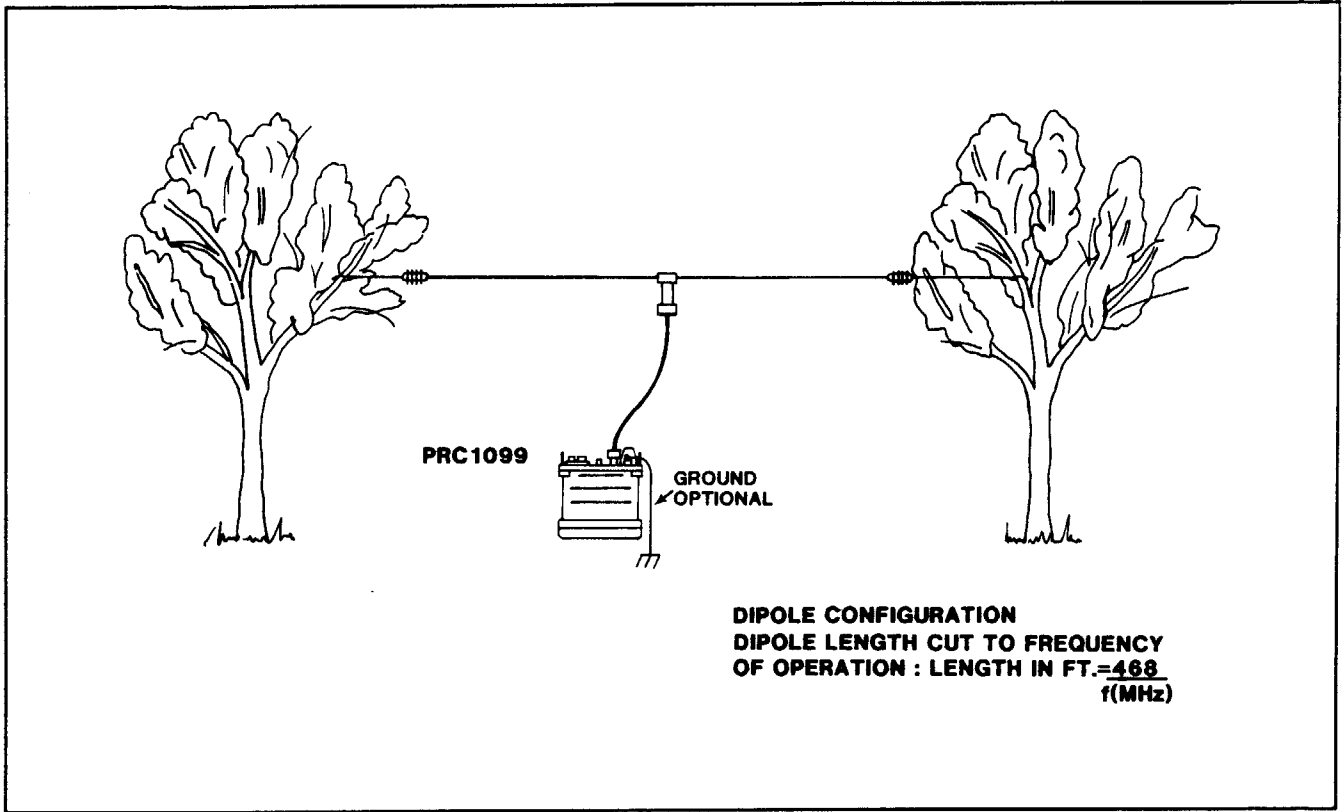

FIGURE 7-3.
(1) Resonant Dipole. The resonant half wave dipole is a simple, efficient antenna providing good long range coverage, even with the limited power of the packset. The length of the antenna must be adjusted for the frequency of use. See Figure 7-3.